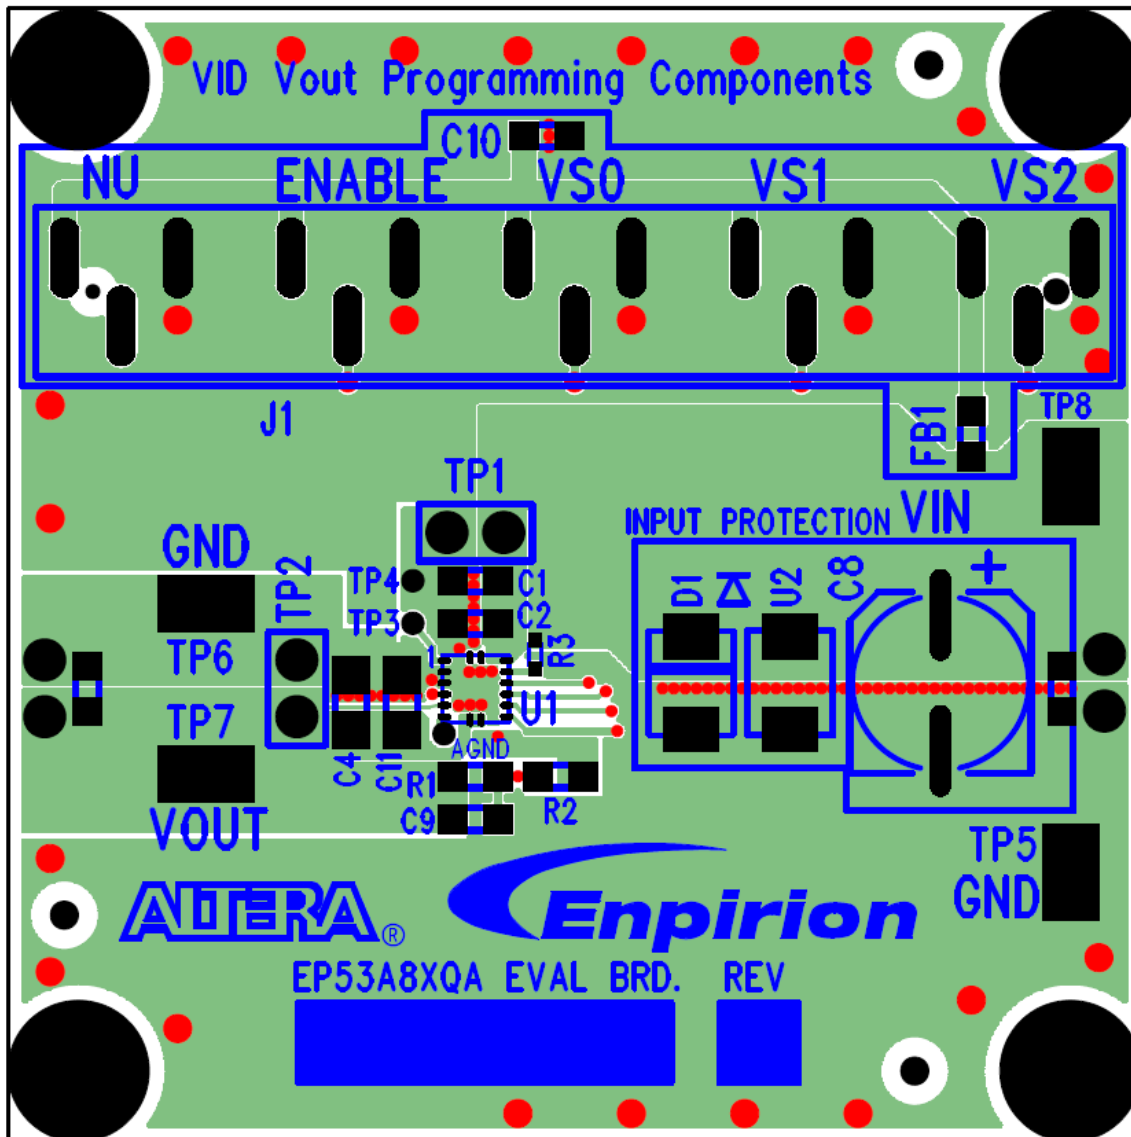

Figure 1. Evaluation Board Layout
This application note describes how to test the EP53A8LQA and the EP53A8HQA converters using the Enpirion EP53A8QA Eval Board shown in Fig. 1. In addition to this document you will also need the device datasheet for a thorough evaluation of the power converter module.
STEP 2: Connect a power supply to the input test points, TP8 (+) and TP5 (-) as indicated in Figure 1. The same test points can also be used to measure the input voltage.
STEP 4: Connect the load to the output connectors TP7 (+) and TP6 (-), as indicated in Figure 1. The same test points are also used to measure the DC output voltage.